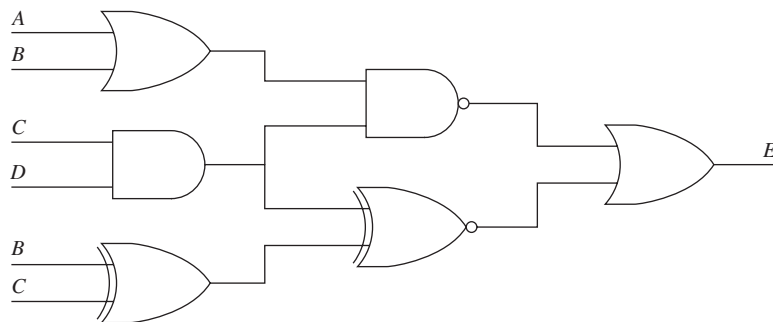

FIGURE P10.53 Logic circuit for P10.53.
10.53 (A) Find the expression of the output of the logic circuit shown in Figure P10.53.